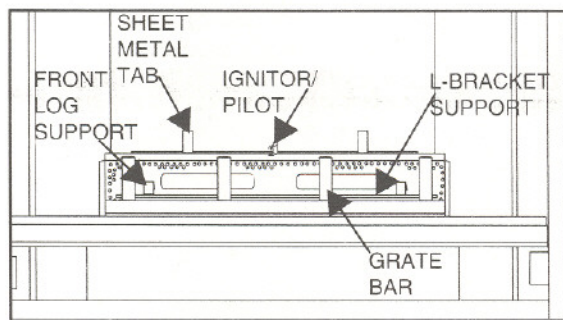
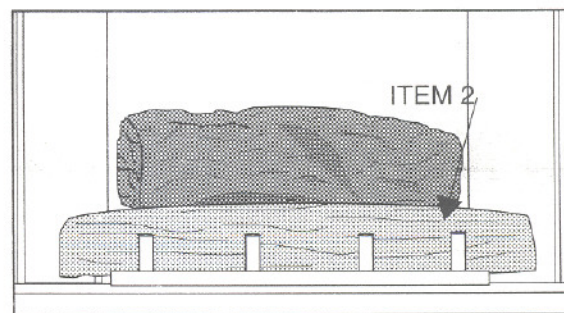

Figure 51
Figure 54
1. If Sheet Metal Tabs are in the upright position, as shown in **Figure 51**, bend them down. They should be flush with the Back Log Support.
Using a phillips screwdriver loosen and remove the left and right outermost screws on the "L" Bracket Support. Remove the (2) Front Log Supports, shown in **Figure 51**.
Also, install or make sure the four (4) Grate Bars are in their respective positions at the base of the Burner Pan Assembly. See **Figure 51**.
3. See **Figure 54**. Place the Front Log (**Item 2**) directly on the "L" Bracket Support. (See **Figures 51 & 52**.)